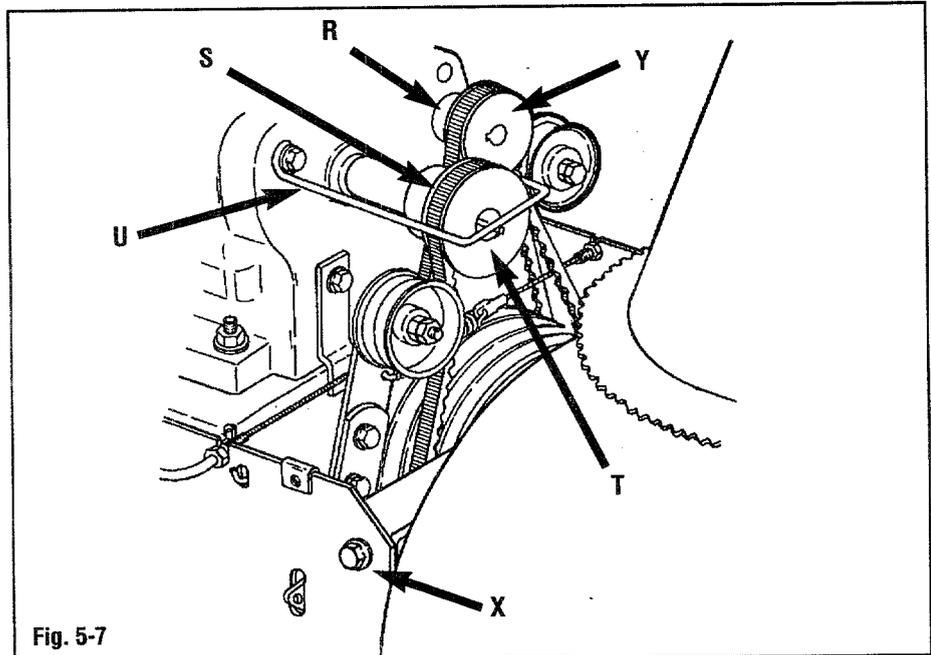

Fig. 5-7
7. Pull the recoil starter handle rapidly while watching belt (S, Fig. 5-7). If the belt (S) moves, decrease the 3/8" (10mm) gap set in step 3 by 1/16" (1mm) and repeat steps 6 & 7.
3. Remove the four flange screws (X, Fig. 5-7) securing the auger housing and the frame/handlebar assembly together.
4. Carefully separate the auger housing from the frame/handlebar assembly. Remove the auger drive belt (S) from the drive pulley on the engine (T). Loosen any belt guides (U), if necessary to remove belt (S) from pulley (T). Prop the handlebars on a solid, stable object, such as a workbench.
5. Remove the wheel drive belt (R). Loosen any belt guides, if needed, to remove belt (R).